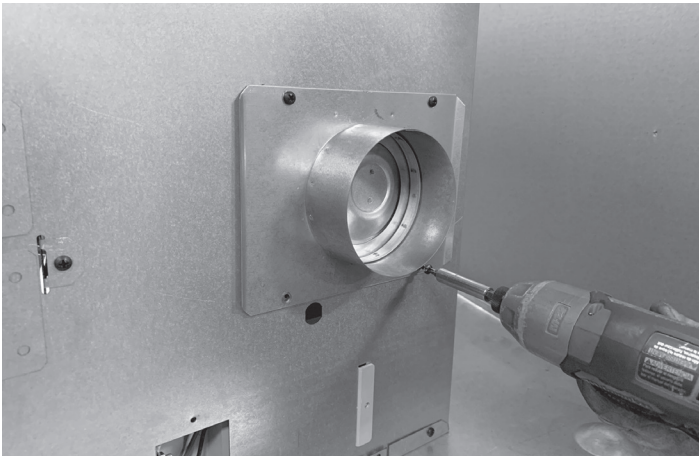

Figure 10
5. Align the Outside Air Assembly and Outside Air Collar with cutout in firebox outer wrap. Secure with (4) screws provided. Installing the top (2) screws first will aid in alignment. See Figure 10.